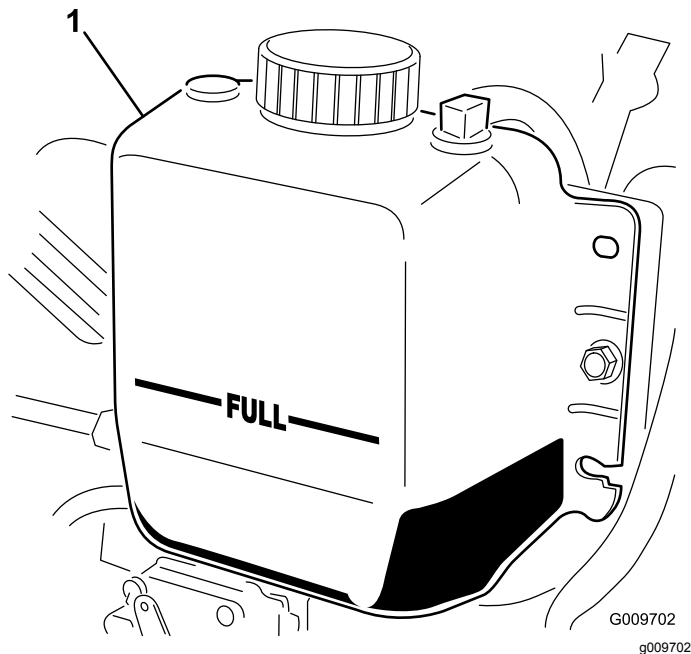

Figure 14
2. Check the coolant level in the radiator. The radiator should be filled to the top of the filler neck and the expansion tank filled to the FULL mark (Figure 14).